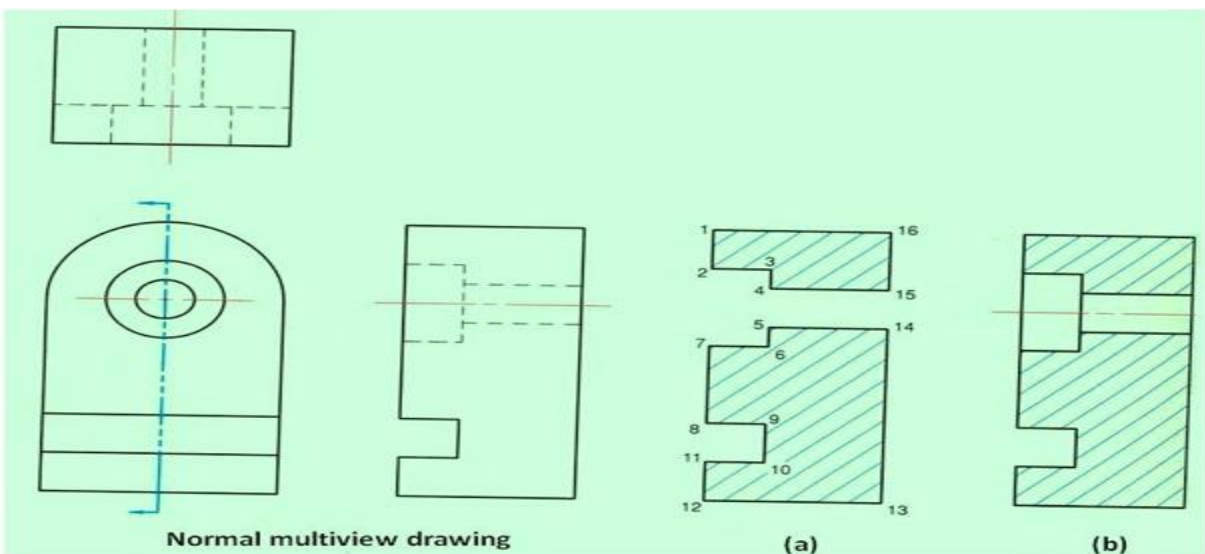

Figure 10. showing the object, orthographic view, sectioned surface and sectional view.
- The representation of the section view of the object shown in figure 9 is shown as (b) in figure 10. The section view in figure (a) shows only those surfaces touched by the cutting plane.
- In figure 10, the cutting plane appears as an edge in the top view and is normal in the front view; therefore, it is a **frontal cutting plane**.